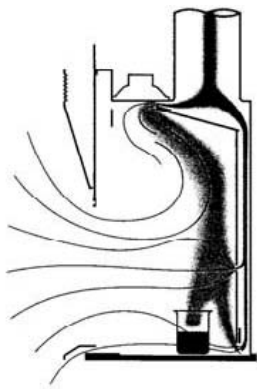

Figure 1
- A. Normal** or Average is for normal exhaust requirements. In most circumstances contaminants generated with a hood mix quickly and have a density nearly the same as air. As shown in figure 1 below this baffle position allows flow in both the lower and upper parts of the hood.